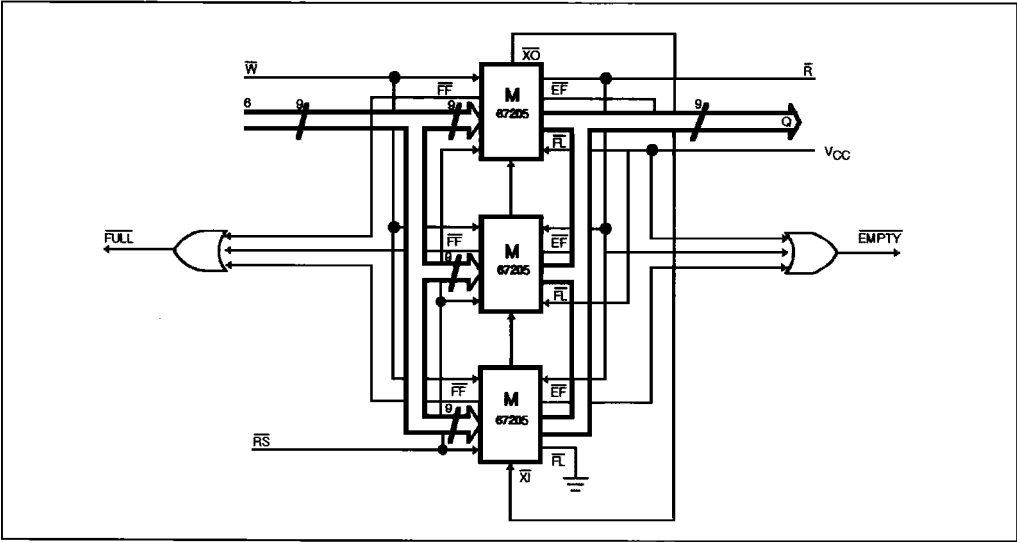

Figure 4 : Block Diagram of 24576 x 9 FIFO Memory (Depth expansion).
The L 67205 can be easily adapted for applications which require more than 8192 words. Figure 4 demonstrates Depth Expansion using three L 67205. Any depth can be achieved by adding additional 67205.
1. The first device must be designated by connecting the First Load (FL) control input to ground.
3. The Expansion Out ( $\overline{XO}$ ) pin of each device must be connected to the Expansion In ( $\overline{XI}$ ) pin of the next device. See figure 4.
4. External logic is needed to generate a composite Full Flag ( $\overline{FF}$ ) and Empty Flag ( $\overline{EF}$ ). This requires that all  $\overline{EF}$ 's and all  $\overline{FF}$ 's be  $\overline{\text{OR}}$ ed (i.e. all must be set to generate the correct composite  $\overline{FF}$  or  $\overline{EF}$ ). See figure 4.
- 6. For depth expansion block see section on Depth Expansion and Figure 4.